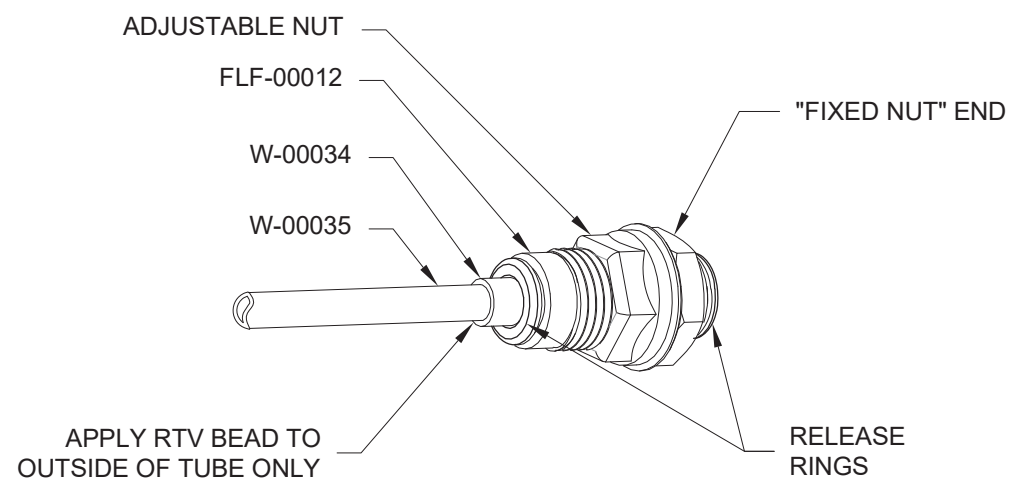

FIGURE 2: WING AOA LINE ASSEMBLY DETAILS
Step 6: Install the W-00034 and the end of the W-00035 in the outboard end of the FLF-00012. See Figure 2.